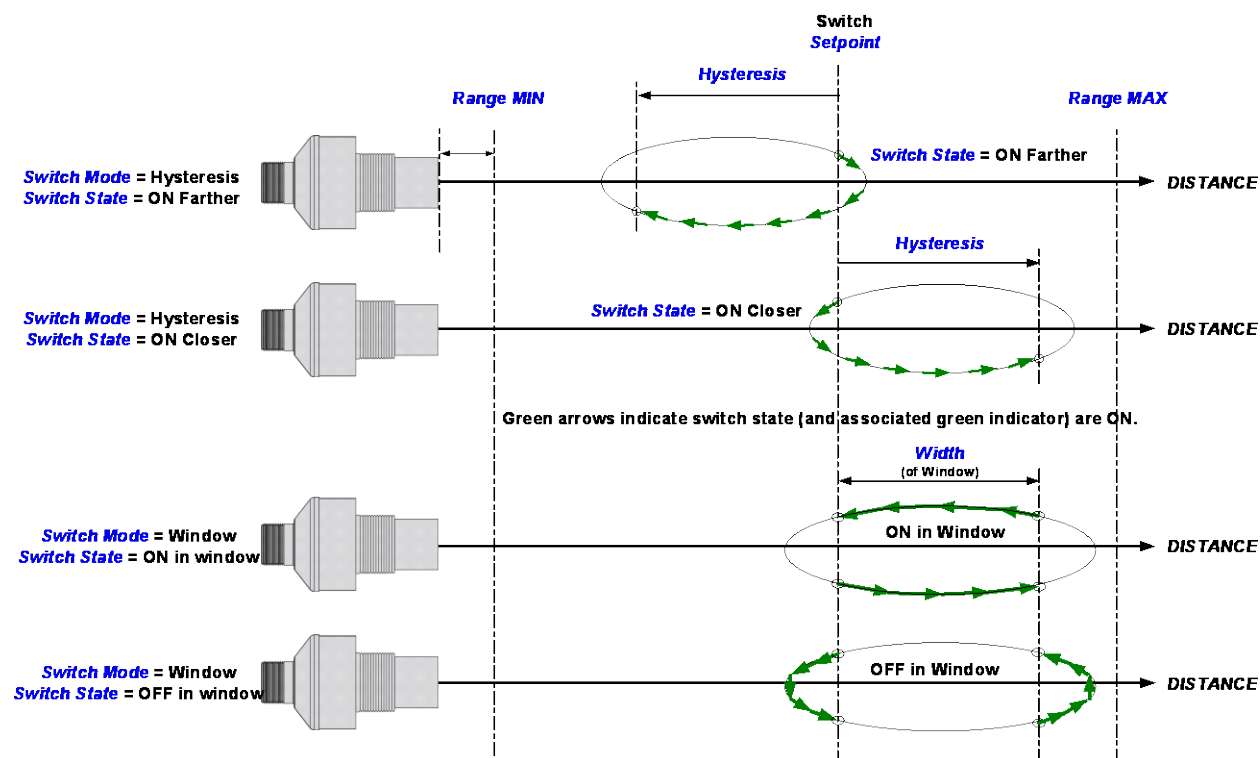

Figure 13 - Switch Hysteresis & Window Modes
- Mode = Setpoint (with Hysteresis) or Window (see Figure 13)